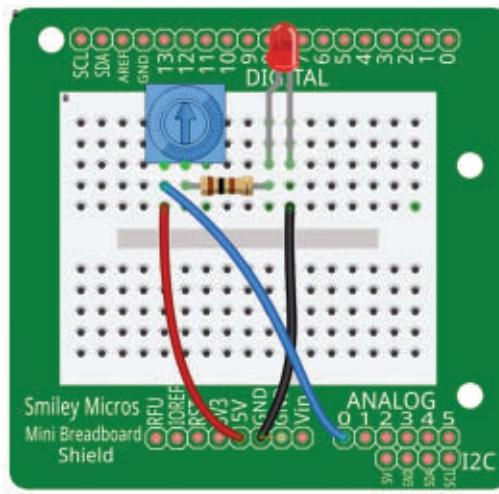

FIGURE 9: Pot as rheostat drawing.
- Build the circuit shown in **Figures 9, 10, and 11**.